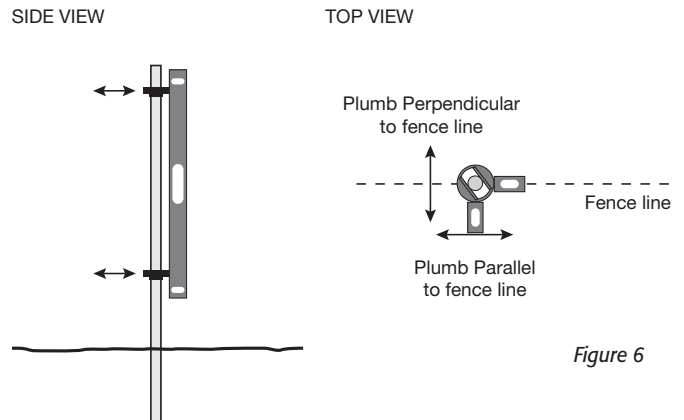

Figure 6
**Offset Adjustment of Top and Bottom Socket Assemblies on End & Corner Posts.** Utilizing a Level, adjust lateral offset of the Top and Bottom Outer Rings as required to plumb the Top Socket relative to the Bottom Socket. It is important to set the Outer Rings plumb in both directions (parallel and perpendicular to the fence line) (Fig. 6).
**Offset Adjustment of Bottom Socket Assemblies on Line Posts.** Utilizing a Level, adjust the lateral offset of the Bottom Outer Rings as required to plumb the Bottom Socket relative to the Top Socket. It is important to set the Outer Rings plumb in both directions (parallel and perpendicular to the fence line) (Fig. 6).